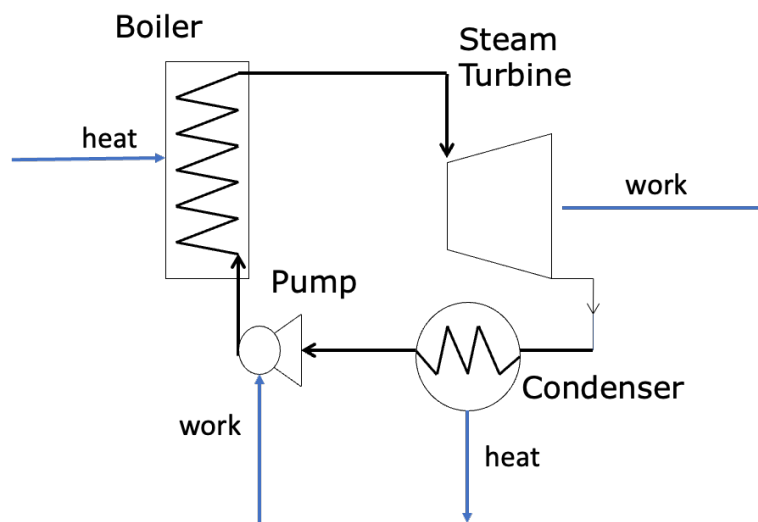

Fig. 1: System: Rankine Cycle
- Soon, we will discuss a *Rankine cycle*, which is represented by Fig. 1. The cycle consists of a pump, a condenser, a heat exchanger, a boiler, and a turbine.